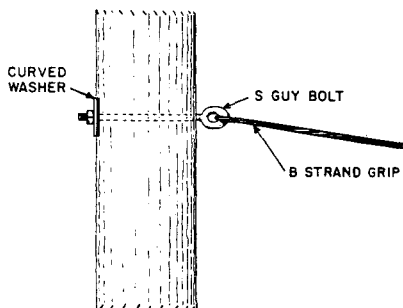

Fig. 6—Installation of S Guy Bolt
- (c) A typical installation showing the use of the S guy bolt is illustrated in Fig. 6.